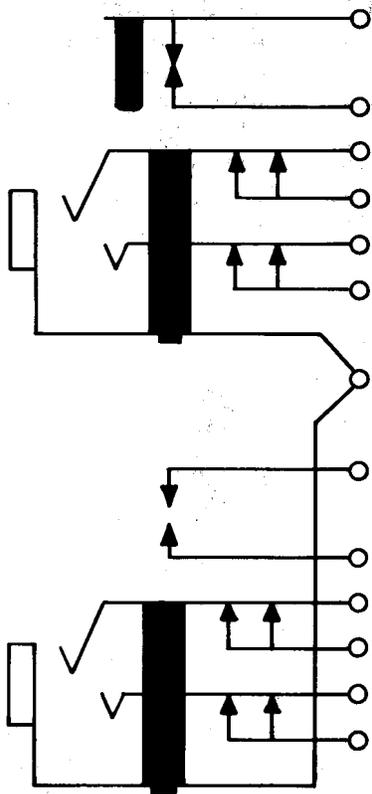

Fig. 8—609A Jack
2.08 609A: This single-mounted twin miniature jack (Fig. 8) has a single frame and is suitable to be used in equipment where space restrictions are a problem. This jack is designed to mate with the 310 plug. The 609A jack is used with D2 Channel Bank Units.